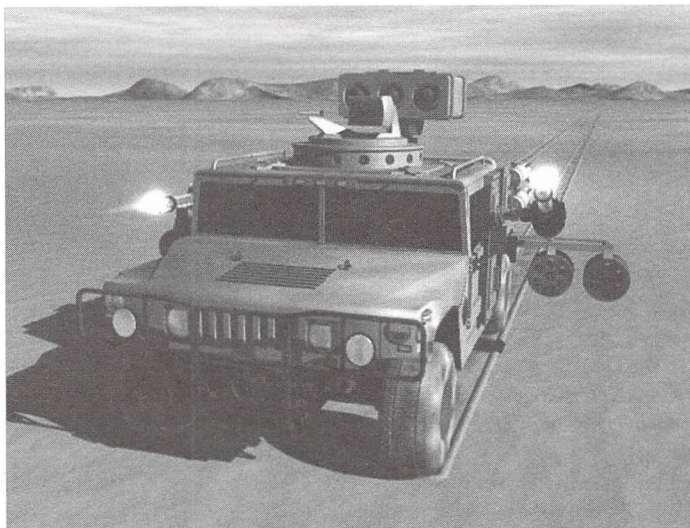
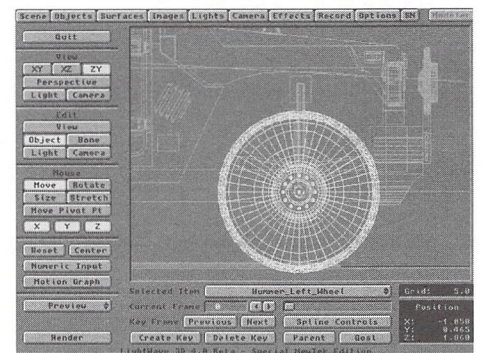

Figure 1: "Full Metal Hummer" uses simple geometric formulas to create realistic velocity and wheel rotation.
Figure 3: A wheel is positioned in one of Hummer's wheel wells.
The vehicle shown in Figure 1 is a military-style Hummer, otherwise known as a HUM-V. My goal was to create realistic movement of the wheels and body while it cruised across the desert. First, I'll describe how the Hummer's movement was set up. I will then discuss how to acquire rotational values for wheels moving at a particular speed, and how to create tracks left behind by the moving tires. Sorry, I won't be explaining how I modeled the Hummer—maybe in my next tutorial.
- Back in Layout, the next step involves creating a null object by hitting the **Add Null Object** button (**Objects** panel). Parent the car body and each wheel to this null object. After every object has been parented to the null object, you will need to position each wheel in relation to the car body. In other words, put the wheels where they belong (Figure 3). Don't forget to create a keyframe for
The Hummer scene shown in Figure 1 was set up in this manner. I simply loaded the Hummer body and the four individual wheels. After parenting them all to a null object, I positioned each wheel under a wheel well (Figure 3). The advantage of parenting each object to a null object is that you can move the objects independently of each other. Effects like front-wheel braking lockup and body roll can be achieved by simply selecting the object and manipulating it in the desired manner.
Now that we have the body moving at a "perfect" 30 mph, we need to rotate the wheels to match that speed. Guessing the rotational value of the wheels and rendering previews is something you could get away with, but slower speeds would be more difficult to match manually. I know—I've tried it. A quick glance at Figure 1 shows that the Hummer has huge tires with a well-defined tread pattern. It would be very easy for anyone to figure out that the wheels do not match the vehicle's speed.